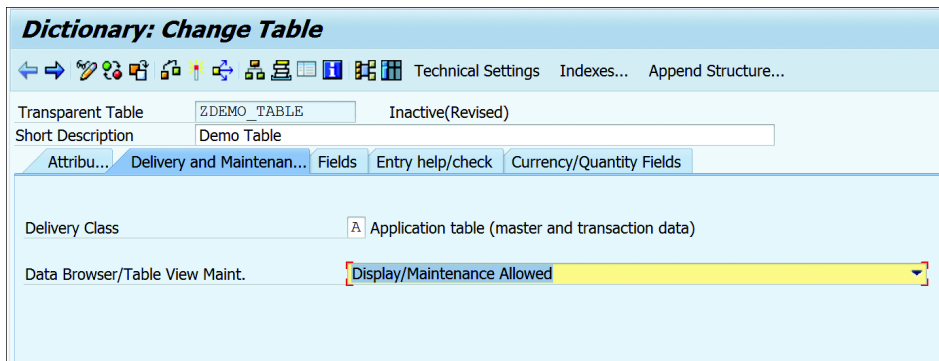

Figure 10.18 Set Display/Maintenance Allowed
1. From the table maintenance screen, select the DELIVERY AND MAINTENANCE tab. For the TABLE VIEW MAINT. field, select DISPLAY/MAINTENANCE ALLOWED (see Figure 10.18) from the dropdown and activate the table.